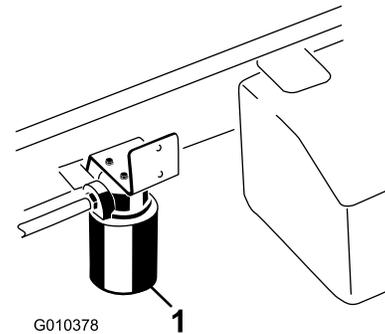

Figure 65
2. Clean the area around filter mounting area. Place a drain pan under the filter and remove the filter (Figure 65).